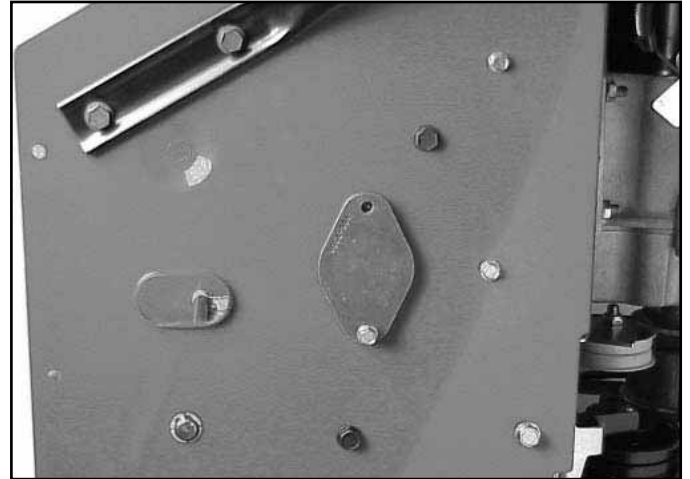

Fig 155
7. Install both bearing retainers (if both were removed) (Fig. 155).